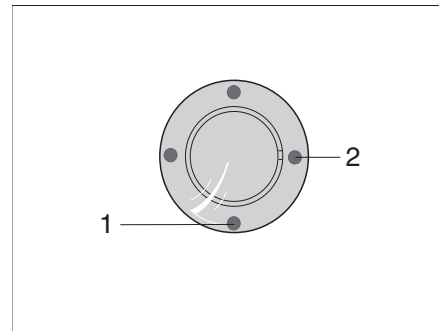
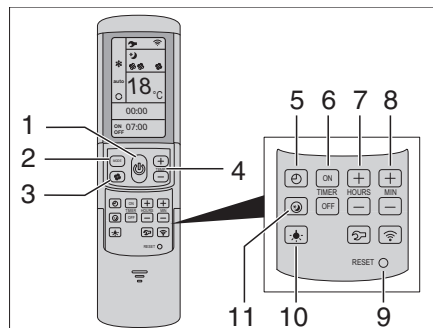

Fig. 123 Infrared receiver/function display
Fig. 124 Remote control
The air conditioning unit is located on the roof of the vehicle. The remote control (Bild 124) for the air conditioning unit is located in the kitchen area.
The air conditioning unit is ready to operate. The blue LED (Bild 123,1) lights up.
- To switch on press the button (Bild 124,1) on the remote control. The blue LED (Bild 123,1) flashes.
- Set the desired operating mode using the MODE button (Bild 124,2).
- If necessary, set the desired fan level by using the button (Bild 124,3) and the room temperature by using the buttons (Bild 124,4).
When the temperature set on the remote control is reached, the blue LED (Bild 123,1) goes out, the compressor switches off and the circulation fan continues to run.
- To switch off press the button (Bild 124,1) on the remote control again.
- To carry out programming, switch on the air conditioning unit by using the button (Bild 124,1) on the remote control.
- Set the desired operating mode by using the button (Bild 124,2) and the room temperature by using the buttons (Bild 124,4).
- Use the buttons (Bild 124,6) to select the desired function:
- Use the buttons (Bild 124,7 and 8) to select the desired switching time (15 minutes to 24 hours).
- Confirm the setting with the buttons "ON" or "OFF" (Bild 124,6).